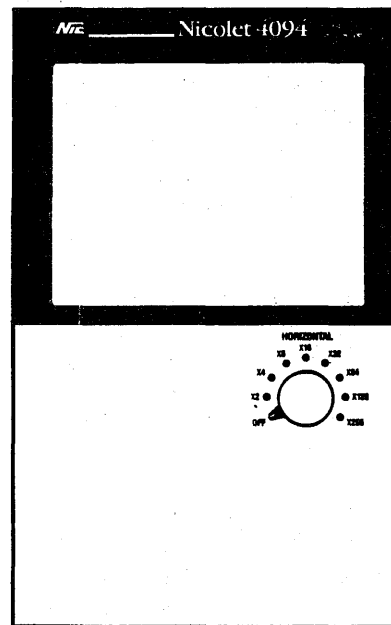

Figure 6-7
- #11. Place the HORIZONTAL EXPANSION switch to the OFF position (Figure 6-7).